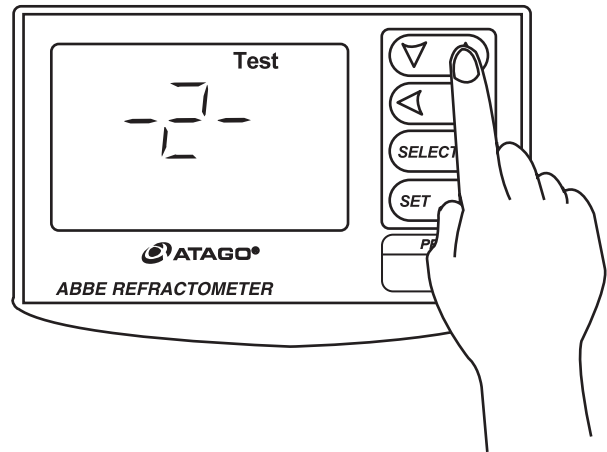

Fig. 10-3
③Then, the indicator shows the lamp being selected with an indication of $-1-$ or $-2-$. Indication $-1-$ expresses the upper lamp while $-2-$ does the lower lamp. Use the ∇ or \wedge keys to select a desired lamp, and press the SET key for decision (Fig. 10-3).